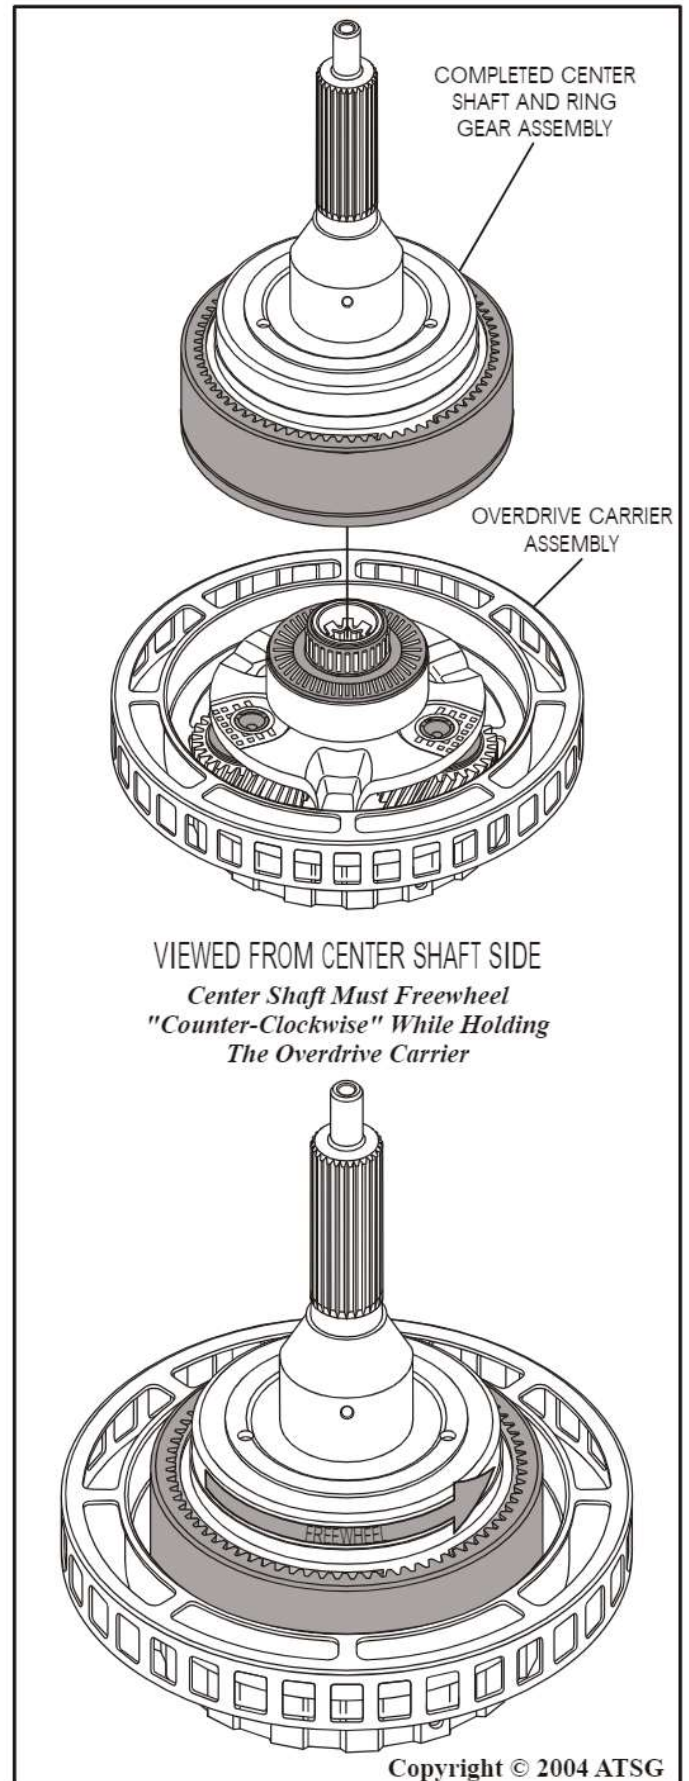

Figure 76
6. Install completed overdrive center shaft onto the overdrive carrier by rotating shaft counter clockwise as you install (See Figure 76).
7. Verify proper overdrive sprag rotation, using Figure 76, and then set the overdrive planetary carrier assembly aside for final assembly.